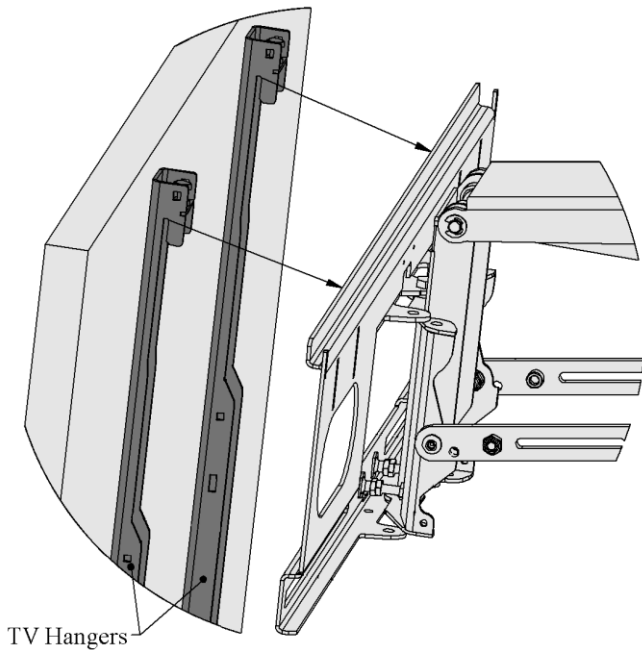

Figure 12, Attaching the Television
5. Hook the TV Hangers (with the TV attached to them) over the Hook Plate as shown in Figure 12.